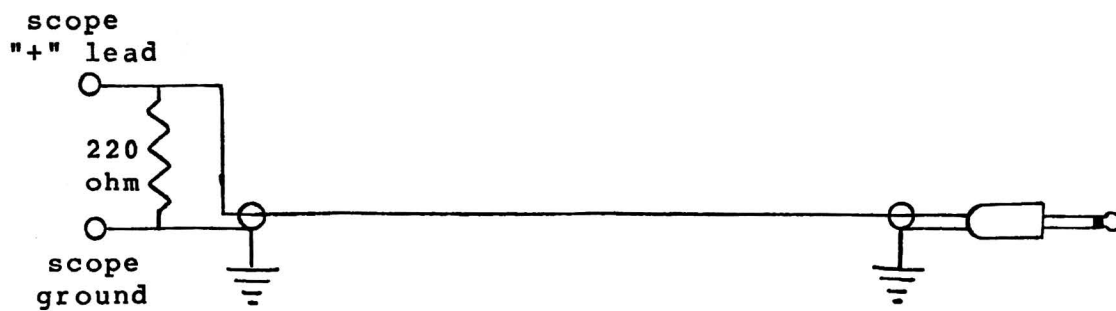

figure 1
- 2. Insert mini-jack adaptor plug with 220ohm resistor across shield to center wire. (See figure 1)